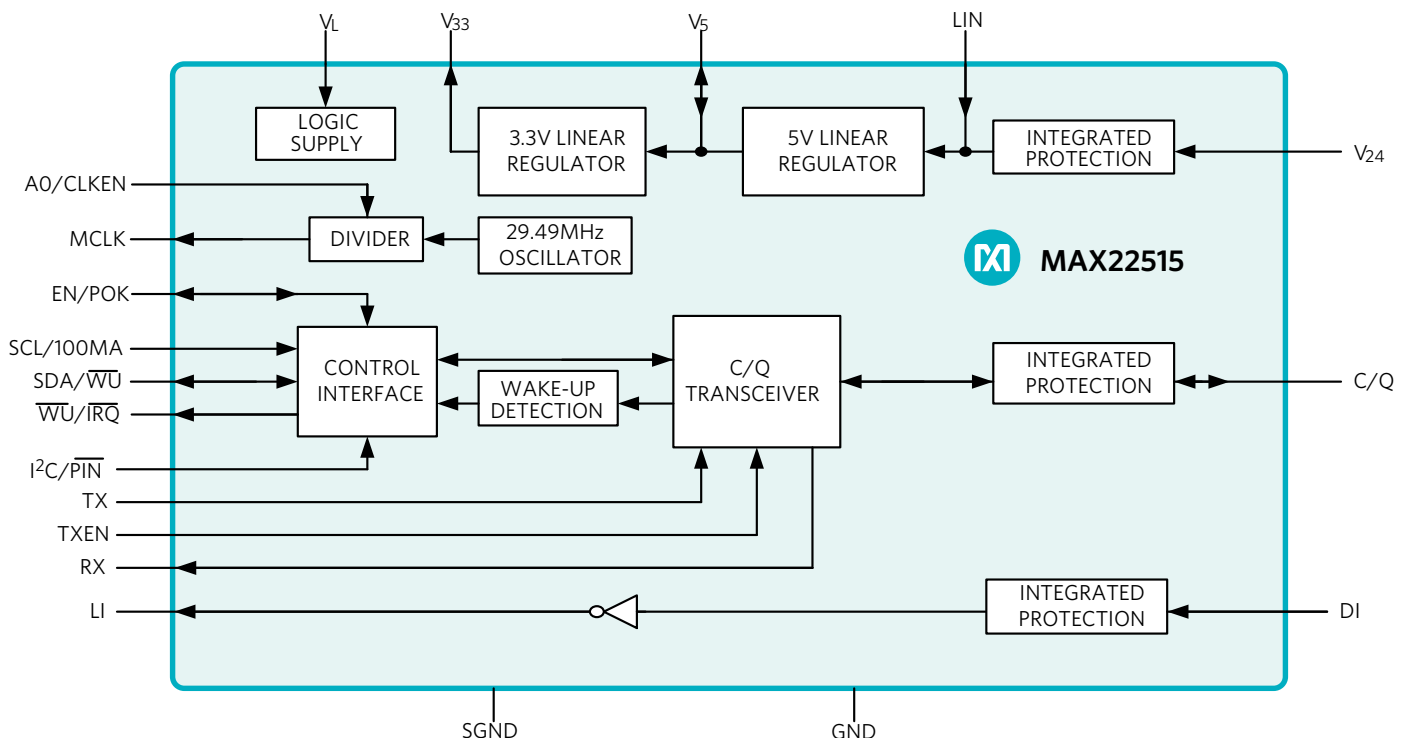

Figure 46. MAX22515 Block Diagram
The **MAX22515** low-power industrial transceiver (Figure 46) operates as either an IO-Link device or a non-IO-Link sensor transceiver in industrial applications. The MAX22515 features a selectable control interface (pin-mode or I²C), two integrated linear regulators, and integrated surge protection for robust communication. The transceiver includes one C/Q input-output channel and one digital input (DI) channel.